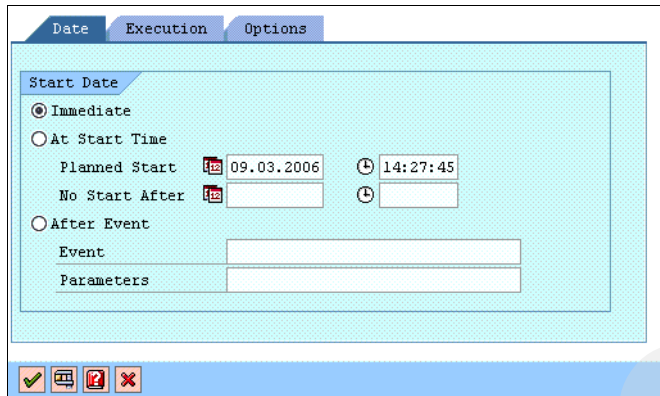

Figure 14-11 Import a change request: Date selection
- ▶ Figure 14-11 on page 206 shows importing a change request with the *Date* selection.
These selection screens also represent the same *settings* as that of step 7 listed previously. Importing a change request with the *Date* selection as Figure 14-11 shows.